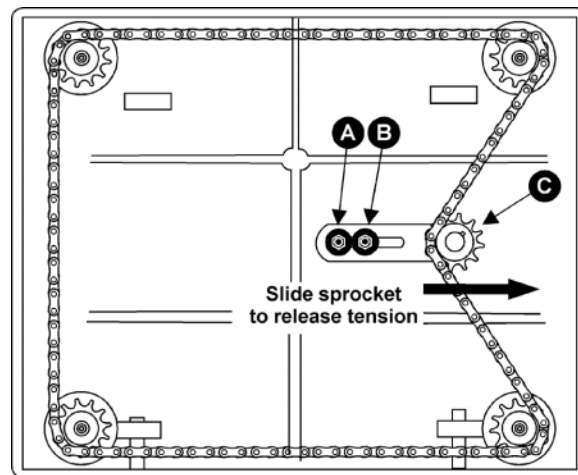

Figure 22
2. Remove bolts holding the planer to the stand. Tilt planer on its side to expose underside of base (Figure 22).
3. Remove bolt (A, Figure 22) and loosen bolt (B-Figure 22) which will allow you to move the idler sprocket assembly (C, Figure 22) far enough to release tension on the chain.
6. When adjustments are correct, replace chain around corner sprocket, slide idler sprocket (C-Figure 22) back to re-tension chain, tighten bolt (B, Figure 22) and insert and tighten bolt (A, Figure 22).